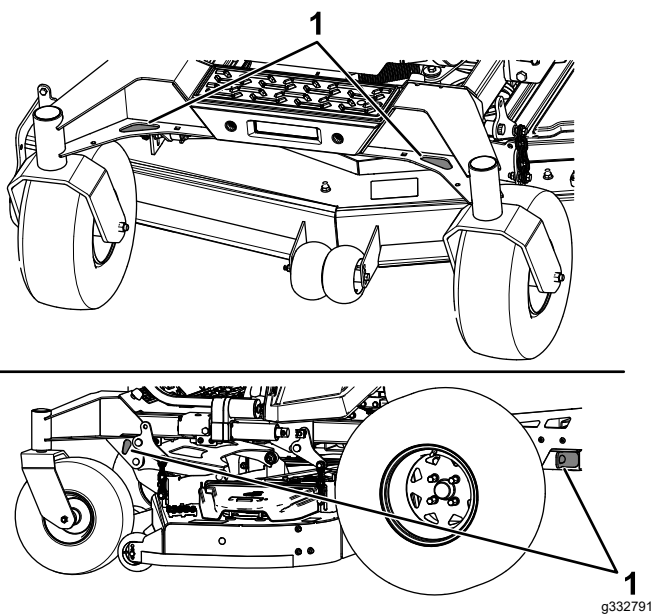

Figure 40
6. Tie down the machine near the front caster wheels and the rear frame with straps, chains, cable, or ropes (Figure 40). Refer to local regulations for tie-down requirements.